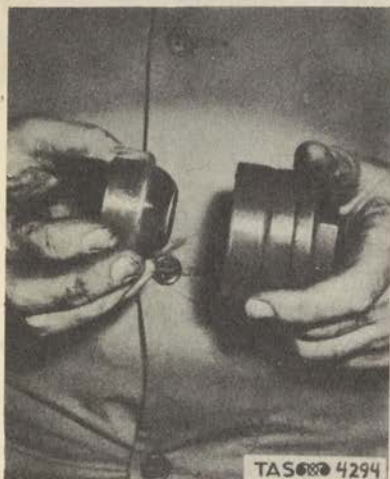

Figure 256. Removal of Plunger Nut.
(7) Disassemble the plunger packing (cup) assembly, as illustrated in figures 256, 257, and 258.
(8) Clean the porcelain cylinder walls, taking care not to damage the porcelain. Clean off the accumulated hard deposit of bleach at each end of the plunger stroke in the cylinder. (A new packing (cup) would undergo severe strain if rub-